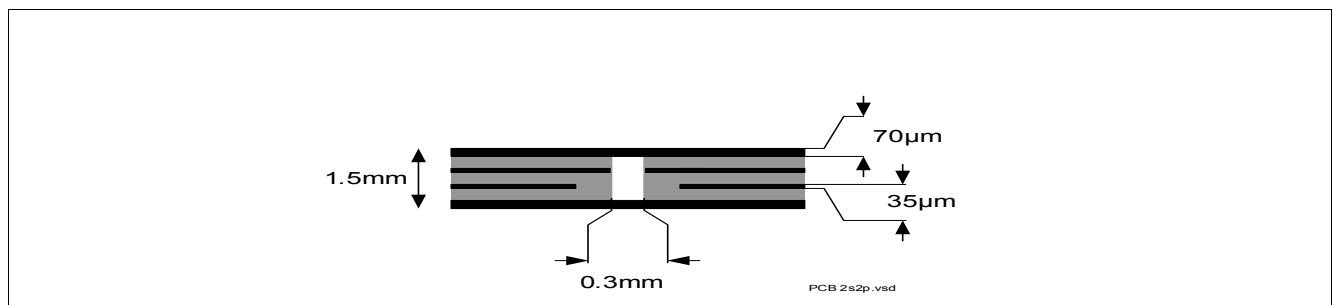
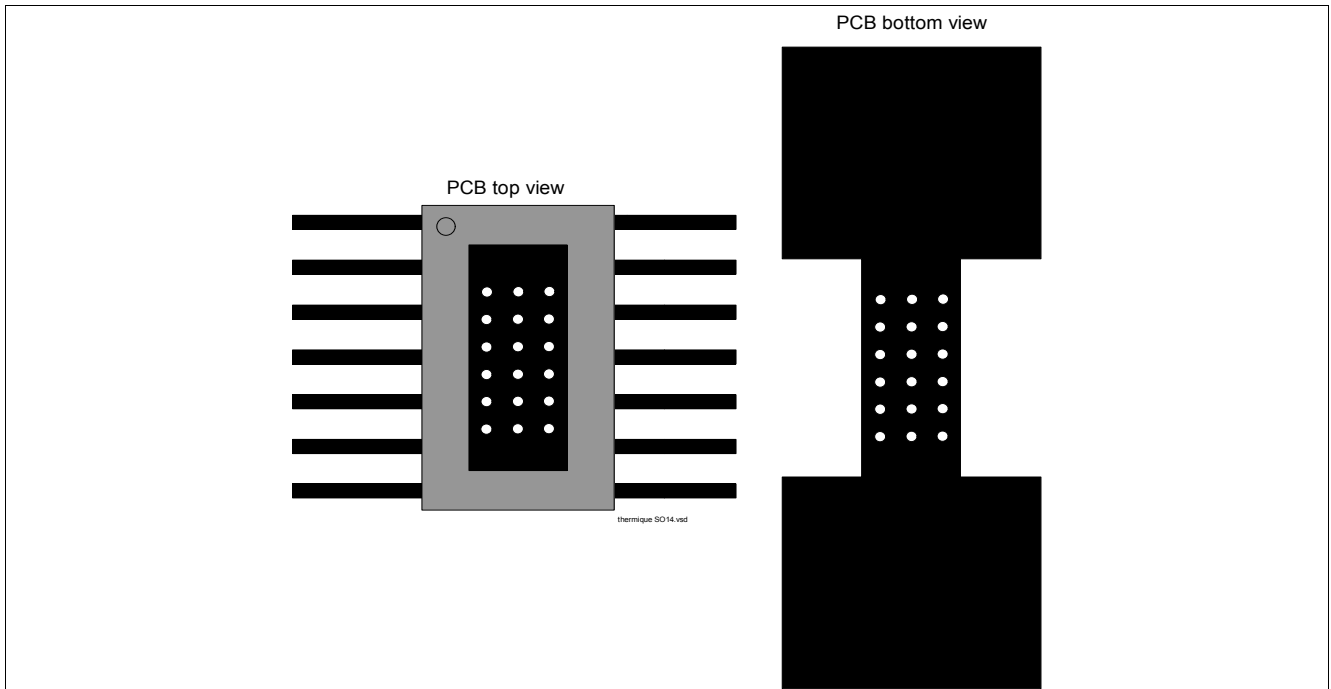

Figure 4 2s2p PCB Cross Section
Figure 5 PC Board Top and Bottom View for Thermal Simulation with 600 mm2 Cooling Area
2) Specified  $R_{thja}$  value is according to JEDEC JESD51-2,-5,-7 at natural convection on FR4 2s2p board; The product (chip + package) was simulated on a 76.4 x 114.3 x 1.5 mm board with 2 inner copper layers (2 x 70µm Cu, 2 x 35 µm Cu). Where applicable, a thermal via array under the exposed pad contacts the first inner copper layer. Please refer to Figure 4 and Figure 5.